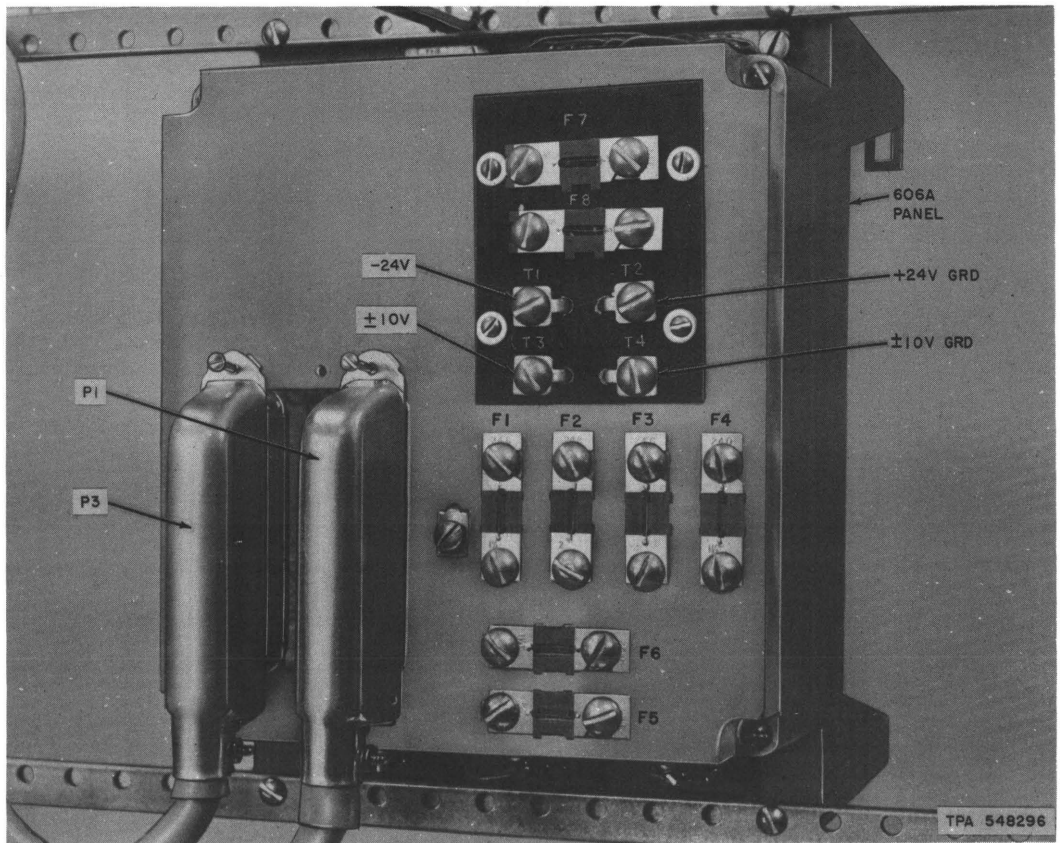

Fig. 5—606A Panel (Rear View)◆
**3.12** Two A25B connector cables are used to connect the 606A panel to the 66B4-25 intermediate connecting block. The A25B connector cables plug into the back (P1 and P3) of the 606A panel (Fig. 5).
606A PANEL (SEE FIG. 5).
**3.18** Power supply (supplied locally, if required) connects to the rear of the 606A panel as shown in Fig. 5. Refer to the appropriate section in Division 518 for proper grounding of power plants.
**6.05** Power supply (supplied locally) connects -24V to T1 and GRD to T2 (Fig. 5) on rear of 606A panel. Power supply (supplied locally with fusing) connects to rows 9 and 10 on the 66B4-25 connecting block for the 69H apparatus mountings.